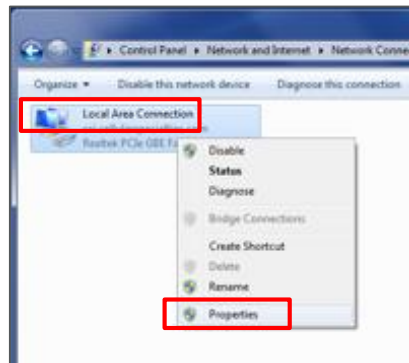

Figure 4-17: Local Area Network
4. Right click on **Local Area Connections** and select **Properties** as shown in Figure 4-17.